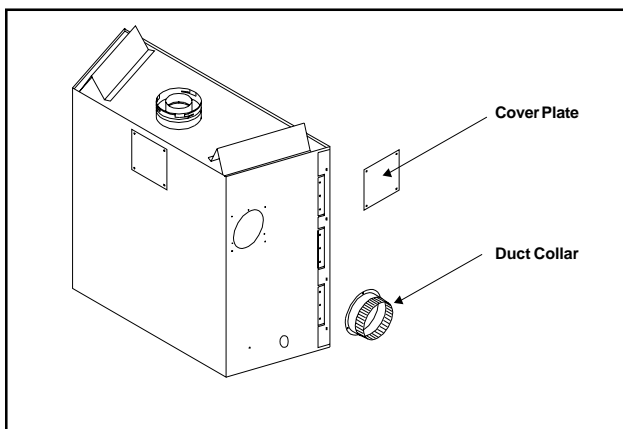

Figure 2
2. Center the duct collar around the exposed hole and attach it to the heater with 3 screws. **NOTE:** Do this **BEFORE** final positioning of the heater. See Figure 2.